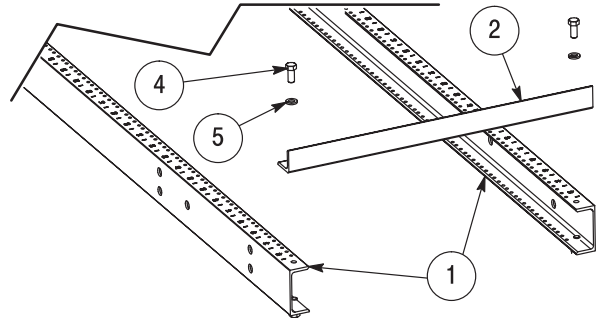

Figure 2
3. Place top angle on vertical channels, align the holes in top angle with 3/8" -16 tapped holes in top of vertical channels and fasten *finger tight* with (2) hex bolts and (2) lockwashers. See Figure 2.